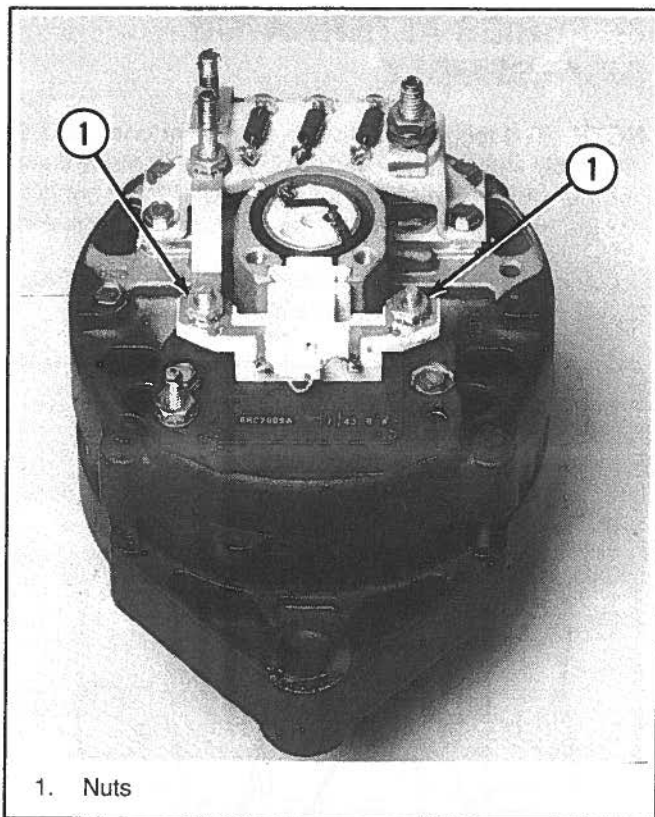

Figure 6-68. Removing Brushholder Assembly
2. Remove two nuts (1) to remove the brush-holder assembly (Figure 6-68).